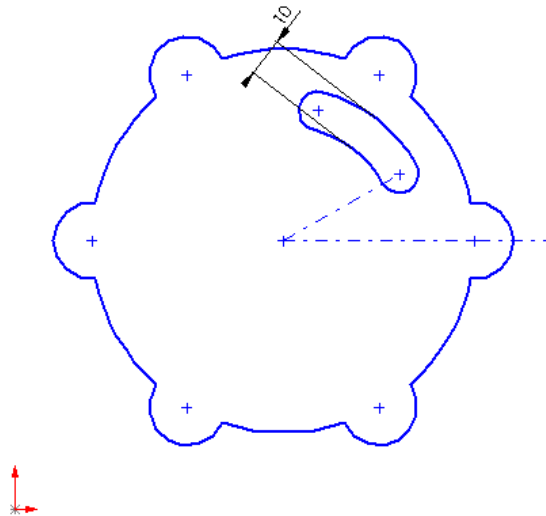

Figure 2-41 The sketch of the outer loop and the inner cavity
- Create the inner cavity using the **Centerpoint Arc** and the **Tangent arc** tools, refer to Figure 2-41.
19. Trim the unwanted portion of the inner cavity using the **Trim** tool. The sketch after completing the inner cavity is shown in Figure 2-41.